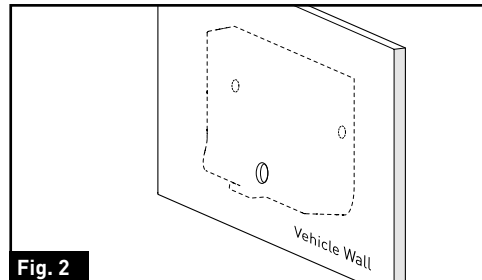

Fig. 2
3. Drill a  $\frac{5}{8}$ " hole on the vehicle wall where the mounting bracket wire feeds in using a  $\frac{5}{8}$ " hole saw. (Fig. 2)